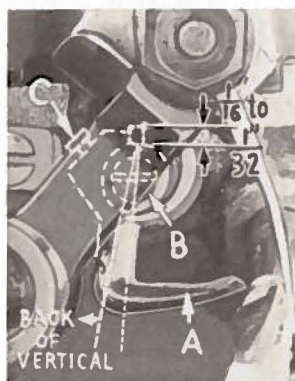

Fig. 7
Insert upper loop (A, Fig. 7) or upper spreader in its holder. Screw (B) holds the upper loop or spreader in its holder, and permits the upper loop or spreader to be pushed in or out, or turned around its shank. Insert upper loop or spreader holder into shaft, if not already in place. Screw (C, Fig. 7) on clamp collar holds upper loop or spreader holder in the shaft, and allows holder to be rotated or adjusted laterally.
Preliminary Setting: When the upper loop or spreader is at the right end of its stroke, the upper loop or spreader holder should be set to position the upper loop or spreader shank slightly back of vertical (Fig. 7). Top end of the upper loop or spreader shank should extend $1/32$ to $1/16$ inch above the upper loop or spreader holder (Fig. 7).